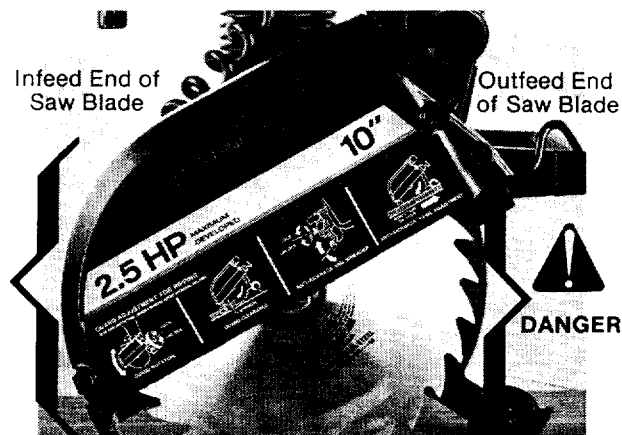

Fig. 110 Infeed and Outfeed Ends of Saw Blade
Wrong way feed is feeding the workpiece into the end of the blade with pawls, the outfeed end. (Fig. 110) There are two things that can happen if you feed the workpiece into the outfeed end of the saw blade:
4. Go to the in-feed end of the saw blade. Fig. 110.